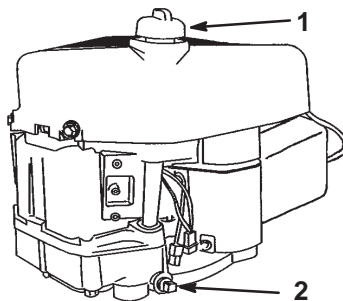

Figure 14
7. Clean around the oil dipstick (Fig. 14) so that dirt cannot fall into the fill hole and damage the engine.
9. Place a pan below the oil drain plug and remove it (Fig. 14).
12. Slowly pour approximately 80% of the specified amount of oil into the fill hole (Fig. 14). Check the oil level; refer to steps 4 and 5 of Checking the Oil Level on page 20.
5. Slowly pour approximately 80% of the specified amount of oil into the fill hole (Fig. 14). Check the oil level; refer to steps 8 and 9 of Checking the Oil Level on page 20.